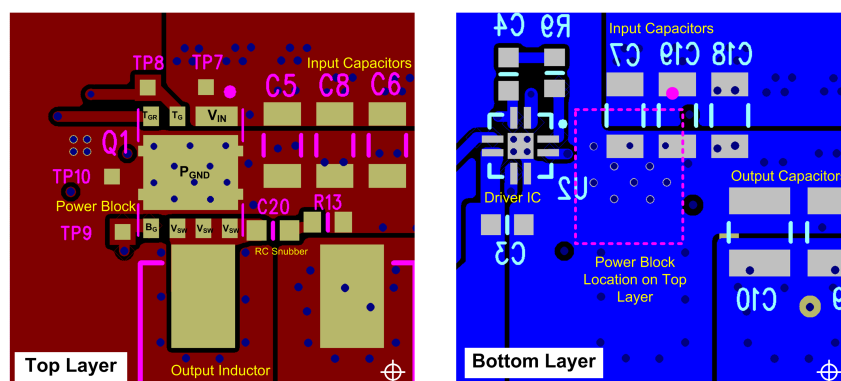

Figure 34. Recommended PCB Layout (Top Down View)
- The placement of the input capacitors relative to the power block's VIN and PGND pins should have the highest priority during the component placement routine. It is critical to minimize these node lengths. As such, ceramic input capacitors need to be placed as close as possible to the VIN and PGND pins (see Figure 34). The example in Figure 34 uses 6, 10-μF ceramic capacitors (TDK part # C3216X5R1C106KT or equivalent). Notice there are ceramic capacitors on both sides of the board with an appropriate amount of vias interconnecting both layers. In terms of priority of placement next to the power block, C5, C7, C19, and C8 should follow in order.
- The switching node of the output inductor should be placed relatively close to the power block VSW pins. Minimizing the node length between these two components will reduce the PCB conduction losses and actually reduce the switching noise level. In the event the switch node waveform exhibits ringing that reaches undesirable levels, the use of a boost resistor or RC snubber can be an effective way to reduce the peak ring level. The recommended boost resistor value will range between 1 Ω to 4.7 Ω depending on the output characteristics of driver IC used in conjunction with the power block. The RC snubber values can range from 0.5 Ω to 2.2 Ω for the R and 330 pF to 2200 pF for the C. Refer to Snubber Circuits: Theory , Design and Application (SLUP100) for more details on how to properly tune the RC snubber values. The RC snubber should be placed as close as possible to the Vsw node and PGND see Figure 34. ⁽¹⁾
- Use the smallest drill size allowed in your design. The example in Figure 34 uses vias with a 10-mil drill hole and a 16-mil capture pad.